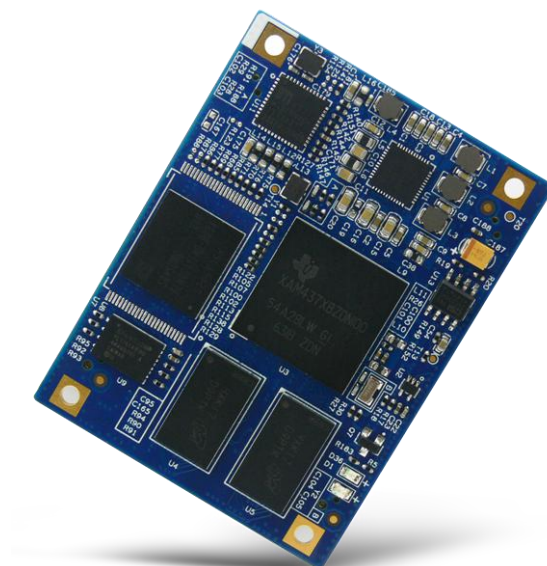

Figure 1-1 MYC-C437X CPU Module
The MYC-C437X CPU Module is a low-cost compact-sized SOM (System on Module) based on 1GHz Sitara AM437X(AM4376, AM4377, AM4378, AM4379) ARM Cortex-A9 processors from Texas Instruments (TI), featuring 3D graphics acceleration for rich graphical user interfaces, PRU-ICSS for industrial protocols, improved Vector Floating Point (VFP) unit and other peripherals and interfaces support like Quad-SPI, cameras, two independent eight-channel ADCs. The product shows in figure 1-1.